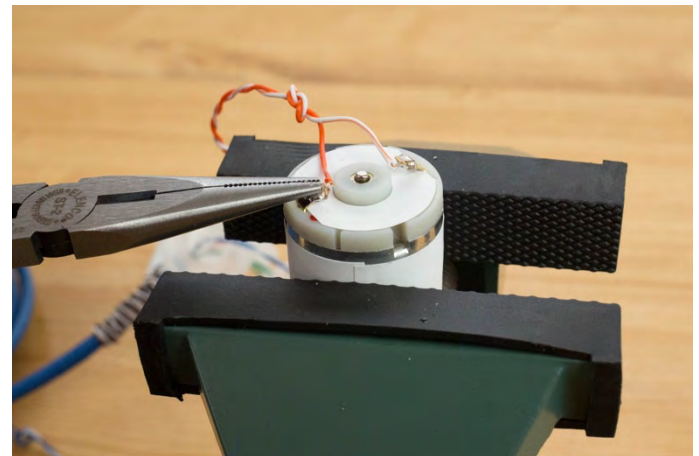

Figure 22
- Once all the connections are cool, use the end of the needle nose pliers to gently bend the terminals down and inward, flat against the top of the motor. (Figure 22)